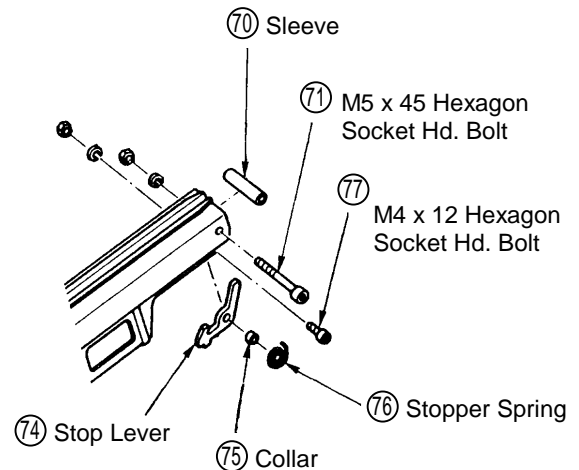

Fig. 17
(a) Disassembly: (see Fig. 17)
- After removing the M5 x 45 Hexagon Socket Hd. Bolt (71) and M4 x 15 Hexagon Socket Hd. Bolt (77), the parts illustrated in Fig. 17 can be taken out.